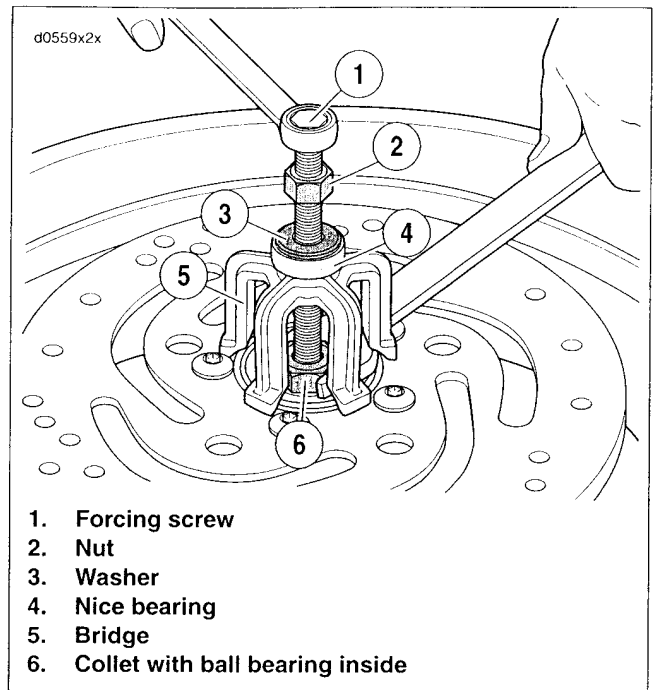
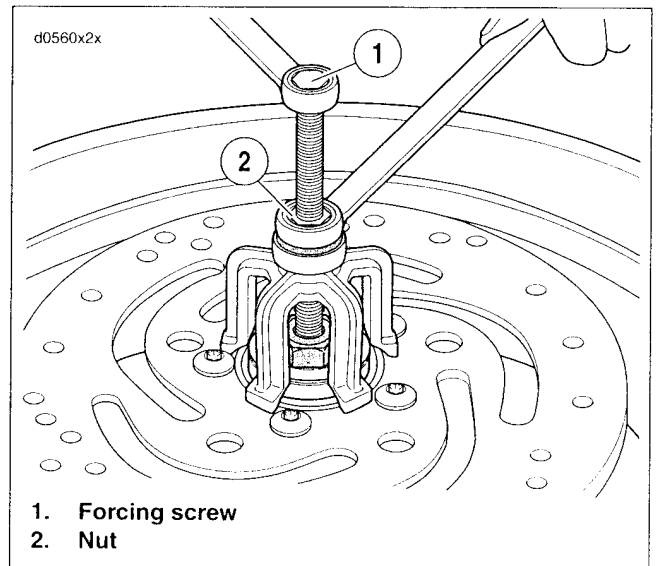

Figure 2-14. Removal Tool
Figure 2-15. Remove Bearing
2. See Figure 2-14. Obtain WHEEL BEARING INSTALLER/REMOVER (Part No. HD-44060) and assemble.
- a. Sparingly apply graphite lubricant to threads of forcing screw (1) to prolong service life and ensure smooth operation.
- b. Install nut (2), washer (3) and Nice bearing (4) on screw. Insert assembly through hole in bridge (5).
- c. Drop ball bearing inside collet (6). Fasten collet and ball bearing to forcing screw (1).
3. Hold end of forcing screw (1) and turn collet (6) to expand edges of collet.
4. See Figure 2-15. When expanded collet has gripped bearing edges, hold end of forcing screw (1) and turn the nut (2) to remove bearing from wheel.